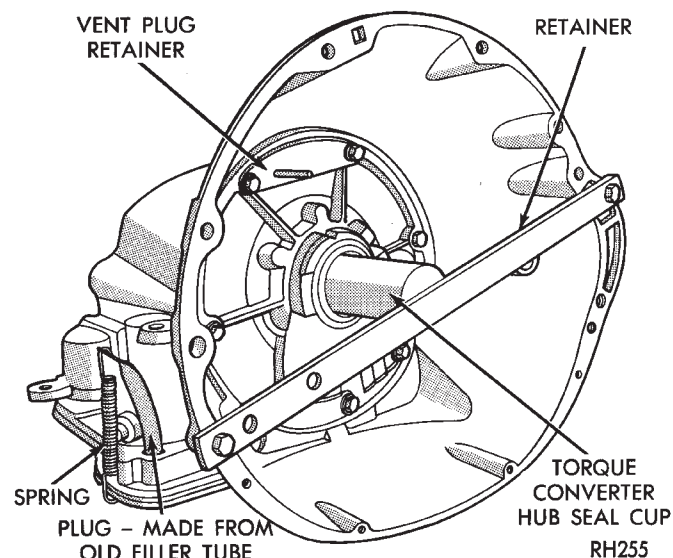

Fig. 22 Vent Plug And Hub Seal Cup Installation
(1) Install vent plug, converter hub seal cup and cup retaining strap (Fig. 22).